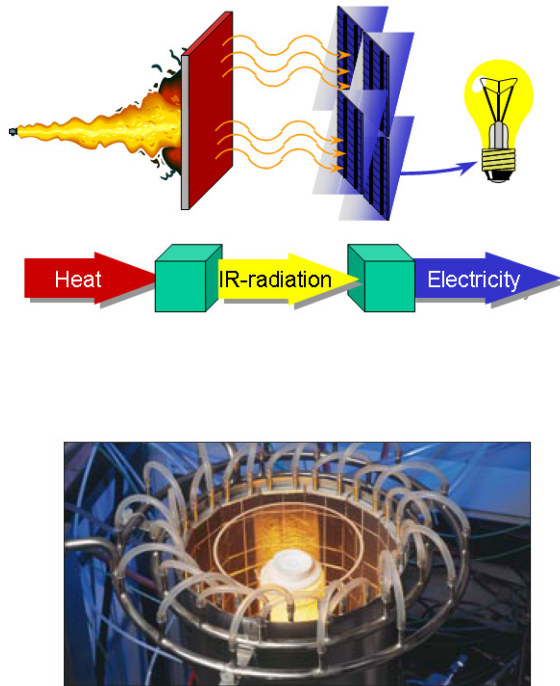

Figure 1: Operating principle of a TPV device (Ref. 2), and an image of a prototype system (Ref. 3).
A thermo-photo-voltaic (TPV) cell generates electricity from the combustion of fuel and through radiation. Figure 1 depicts the general operating principle. The fuel burns inside an emitting device that radiates intensely. Photovoltaic (PV) cells — almost like solar cells — capture the radiation and convert it to electricity. The efficiency of a TPV device ranges from 1% to 20%. In some cases, TPVs are used in heat generators to co-generate electricity, and the efficiency is not so critical. In other cases TPVs are used as electric power sources, for example in automobiles (Ref. 1). In those cases efficiency is a major concern.